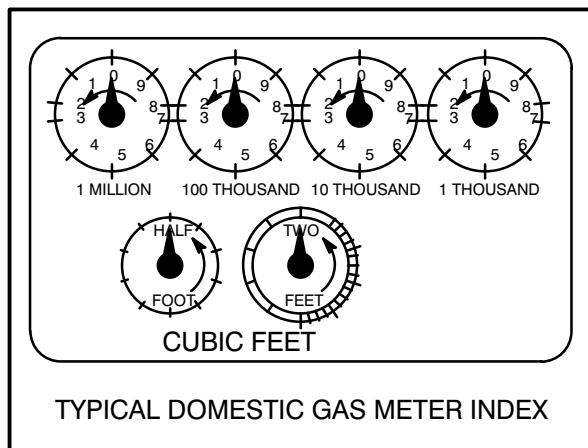

FIGURE 4
2. Using either the 1/2 cu. ft. or the 2 cu. ft. dials, note the time it takes the indicator to complete one revolution. See FIGURE 4.